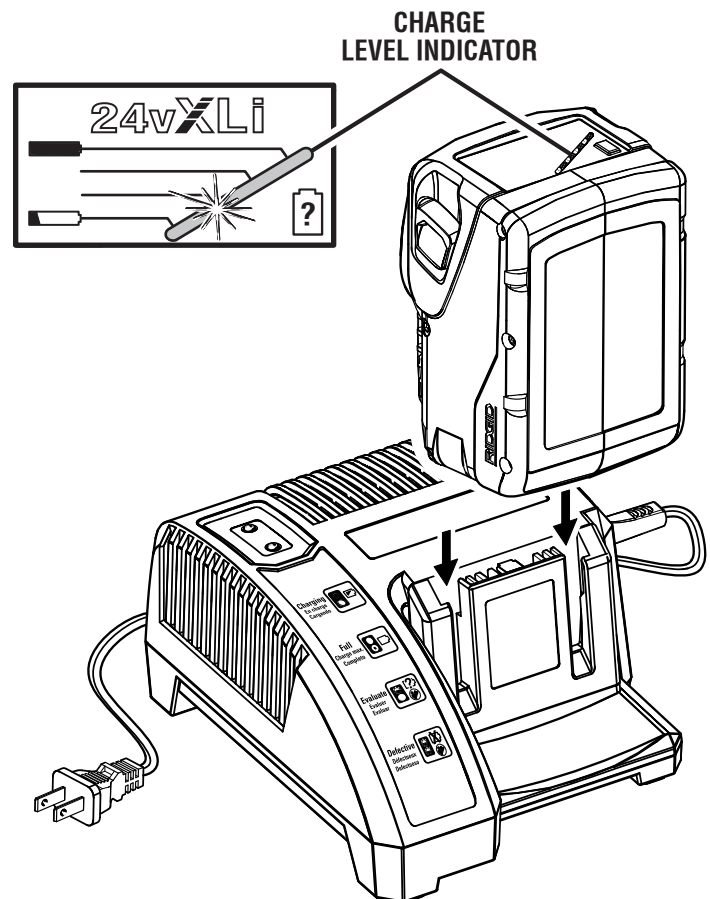

Fig. 4
- Attach the battery pack to the charger by aligning the raised ribs on the battery pack with the grooves in the charger, then slide the battery pack onto the charger. See Figure 4.